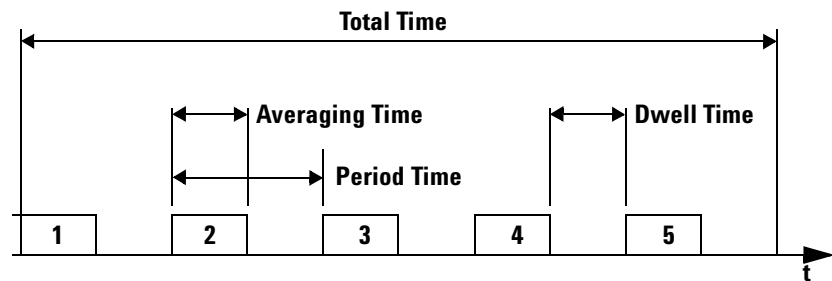

Figure 16 Example Stability Application
- The averaging time is less than the period time, there is a dwell time between the commencement of each power measurement, as shown in Figure 16.